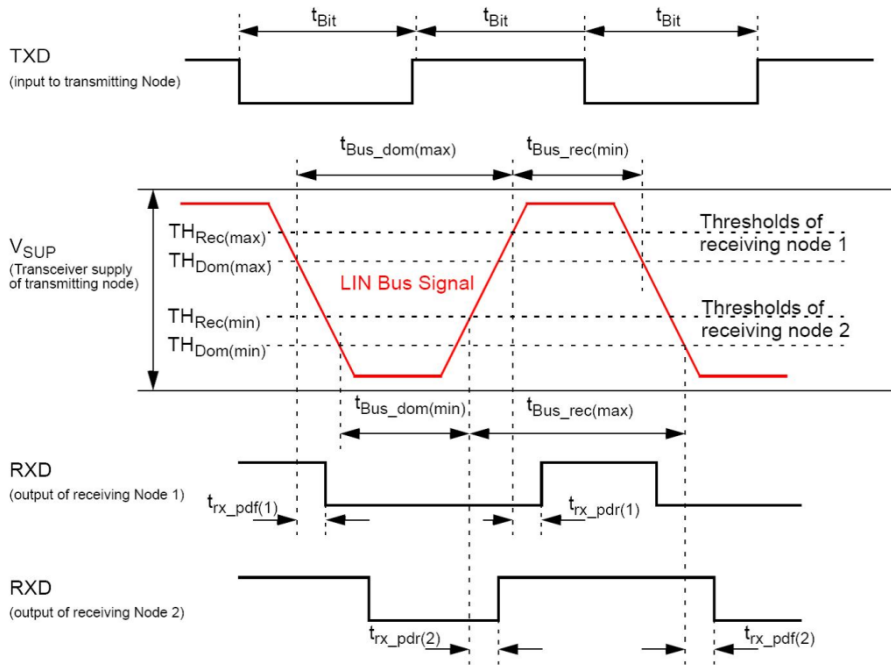

Figure 3 – LIN timing diagram (reference ISO17987-4 specification)
- [2] See Figure 3 – LIN timing diagram in accordance to ISO17987-4
As shown in Figure 3, both worst case duty cycles and both transmitter propagation delays can be calculated as follows: